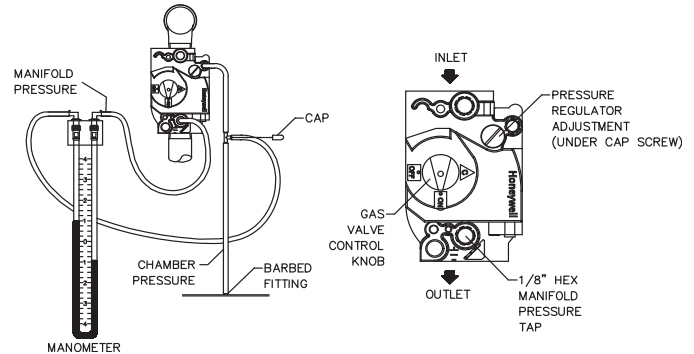

FIG. 31 Measuring Manifold Gas Pressure
4. Locate the reference hose on the second gas valve which goes from the vent fitting on the gas valve to a barbed fitting on the deck of the unit (see FIG. 31).
6. Remove the 1/8” hex plug from the manifold pressure tap on the gas valve (see FIG. 31). **Retain plug for future use.**
7. Install a fitting in this tap that is suitable for connection of a hose to a manometer, or (+) side of a magnehelic gauge (see FIG. 31).